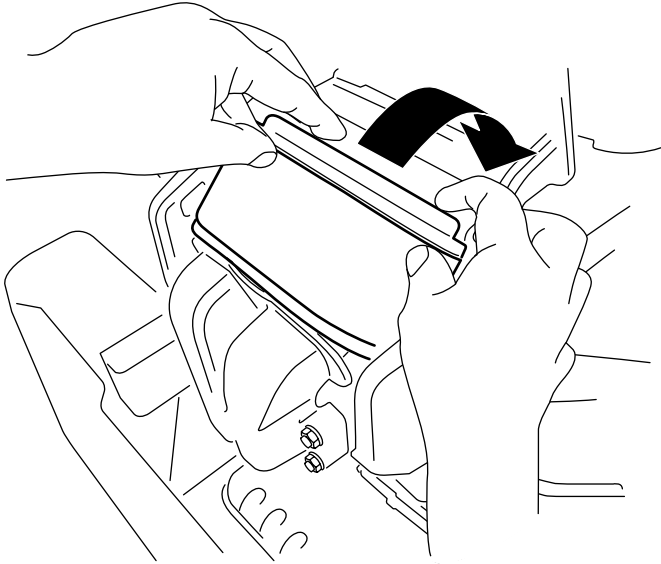

Figure 40
3. Rotate the filter down into the chamber and fully seat it against the manifold (**Figure 40**).